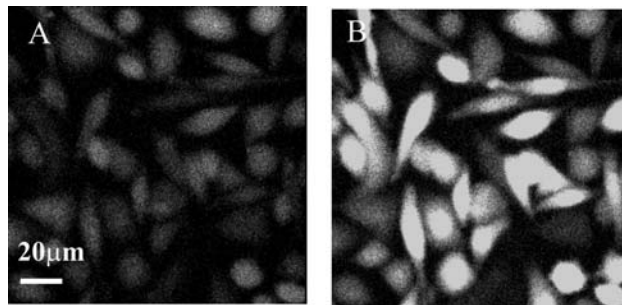

Figure S1
Figure S1. Representative fluorescence images of CHO cell response to UTP in a traditional well-plate assay. (A) shows adherent cells in a traditional well-plate before UTP addition and (B) shows response of the adherent cells after UTP addition (final UTP concentration 1.0  $\mu$ M).